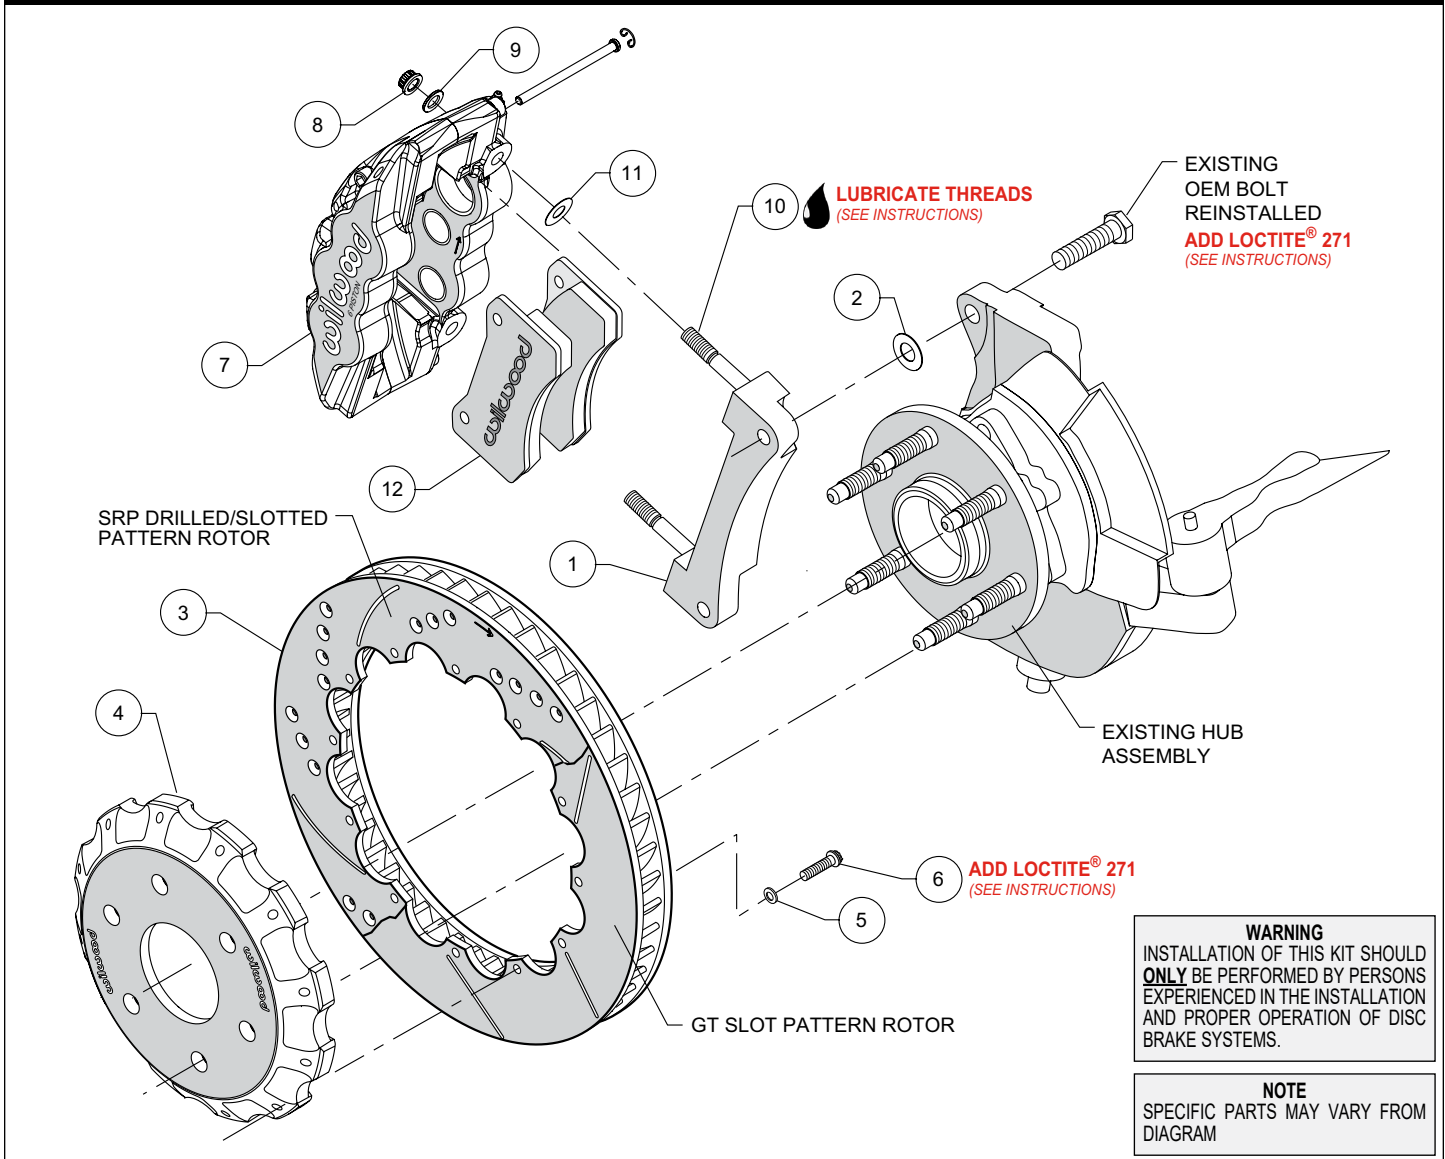
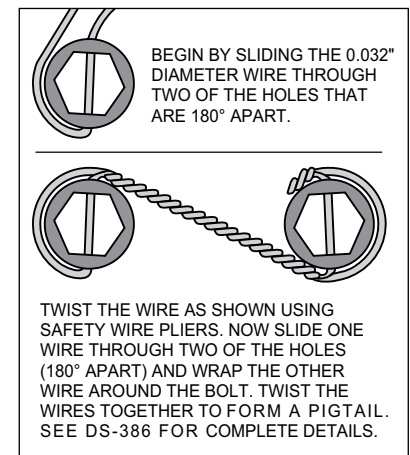

Figure 1. Typical Installation Configuration
Figure 4. Safety Wire Diagram
NOTE: Numbers in parenthesis refer to the parts list and Figure 1 on the preceding pages.
- The caliper mount bracket assembly (1) should be installed first with clean, dry threads on the mounting bolts. Install the bracket on the outboard side of the spindle by sliding the original OEM bolt through the OEM mounting ear bolt hole from the backside, through washer (2) and into the bracket (1). The bracket must tighten squarely against the outboard side of the caliper mount bosses on the spindle. Inspect for interference from casting irregularities, machining ridges, burrs, etc. Use one thin shim (2) between the bracket and spindle during initial trial fitting.
- With the larger I.D. side of the rotor (3) facing away from the hat (4), bolt rotor (3) to hat (4) through the backside of the rotor using washers (5) and bolts (6). Using an alternating sequence, apply red *Loctite*® 271 to the threads and torque bolts to 140 **in-lb**. For an added measure of security, the bolts may be safety wired using standard 0.032 inch diameter stainless steel safety wire as shown in Figure 4. Please refer to Wilwood's data sheet DS-386 (available at www.wilwood.com/Pdf/DataSheets/ds386.pdf) for complete safety wire installation instructions.
- Install one shim (11) over each stud (10) on the radial mount bracket (1). Slide the caliper (7) in place over the studs and rotor and install the washer (9) and lock nut (8) to hold the caliper in place. The caliper bleed screws should be pointing up. Snug the lock nuts (8) and check that the rotor (3) is centered in the caliper (7). Add or subtract .029" shims (2) as necessary between the caliper mount bracket (1) and the caliper mount bosses on the spindle to center the caliper (7).
- Remove the two pad retaining pins from the caliper (7) by carefully popping out the pin retaining clips and sliding out the pins. Insert the brake pads (12) into the caliper from the bottom, Figure 1. With the friction material facing the rotor, secure the brake pads in place with the pad retaining pins and clips. Reinstall the caliper onto the caliper mounting bracket and temporarily tighten the lock nuts. Check that the top of the brake pad is flush with the outside diameter of the rotor. If not, adjust by adding or subtracting shims (11) between the caliper and the bracket.
- Once all clearances have been checked, remove the wheel, caliper and rotor from the spindle and hub. Secure the caliper mounting bracket (1) to the spindle using red *Loctite*® 271 on the bolt threads. Torque the bolts to manufacturer's specifications. Reinstall the rotor and again use several lug nuts to hold it in place. Lubricate caliper mounting studs and nuts with lightweight oil, reinstall the caliper, torque the caliper nuts (8) to 47 ft-lbs.